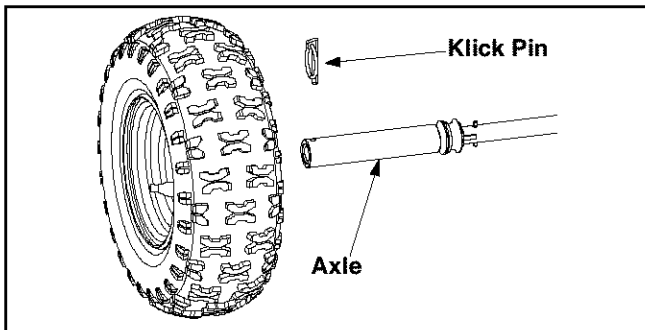

Figure 18
- Oil or spray lubricant into bearings at least once a season. Pull the klick pins and remove wheels, clean and coat axles with a multipurpose automotive grease. See Figure 18.